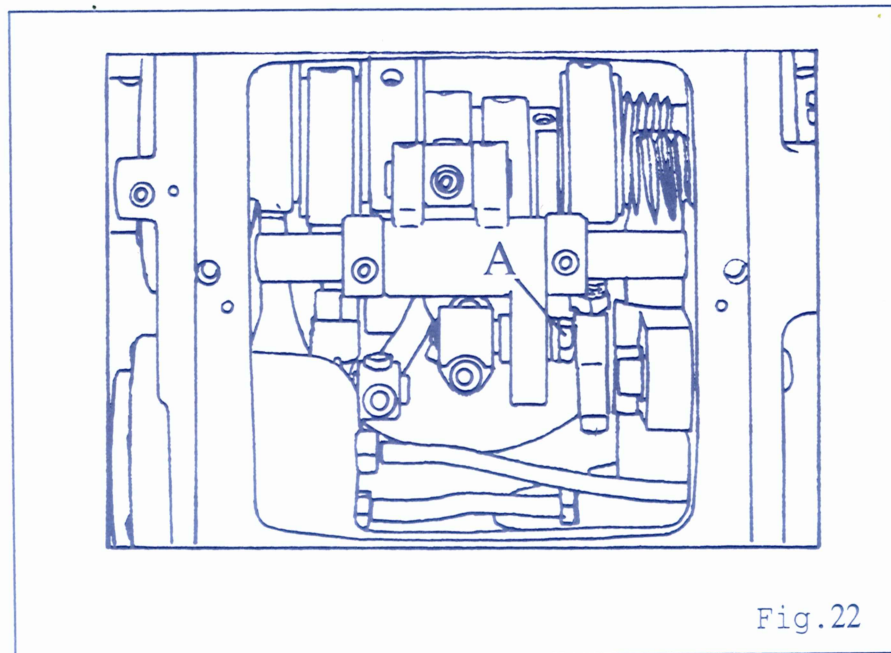

Fig.22
Loosen the nut (A) of Loper Front-Rear Control Shaft, move the Shaft upward or downward, it could adjust the needle to stick on the Loper thicker or thinner. (Fig 22)